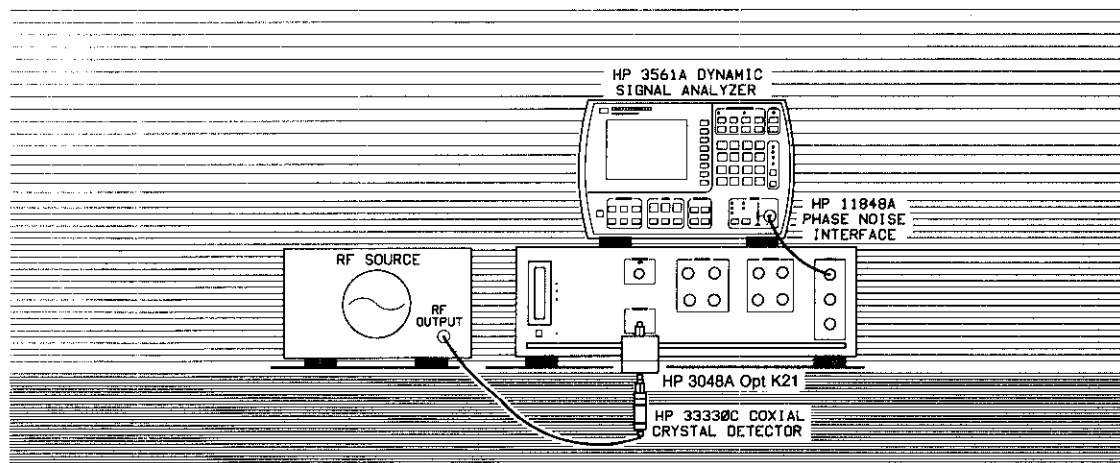

Figure 3-30. Setup Diagram for AM Noise Measurement Example.
2. When the Connect Diagram appears, connect the signal paths as shown in Figure 3-30. Table 3-24 contains setup considerations that will help ensure that your measurement results are valid.